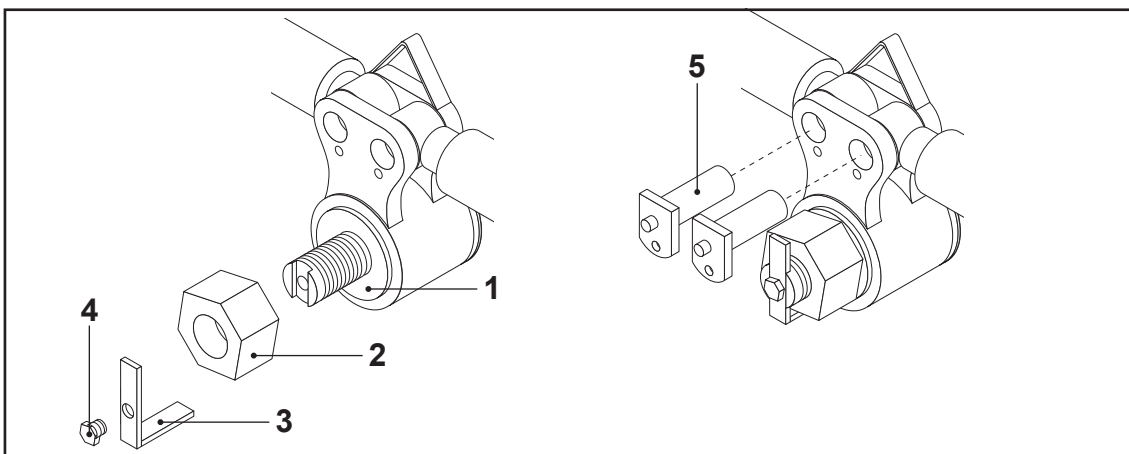

FIG.63
- Put back the lever locking washer (FIG. 63-REF. 1), the adjustment nut (FIG. 63-REF. 2), the nut locking lever (FIG. 63-REF. 3) and fasten it with the TE screw (FIG. 63-REF. 4).
- Put back the two pins (FIG. 63-REF. 5), align the holes on the tapered connecting rod with the holes on the jack and tighten the screws to fasten them.